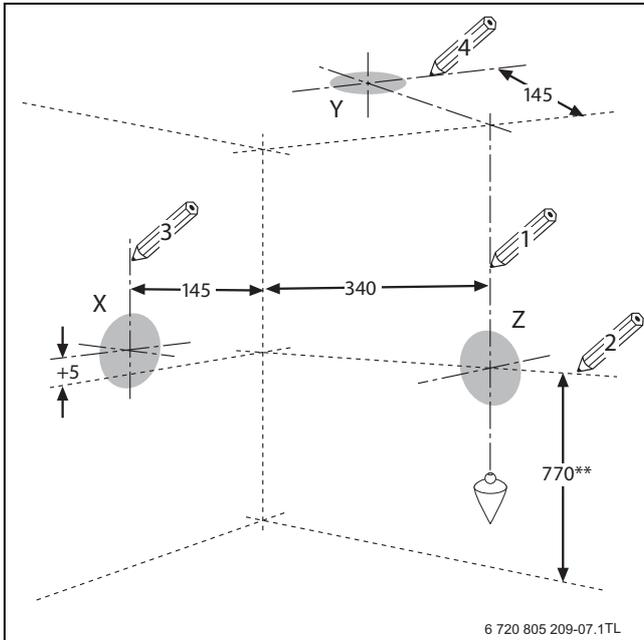

Fig. 28
- ▶ Follow figure 28 to mark the centre of the flue (1, & 2) for rear opening, (2 & 3) for side opening or (1 & 4) for top opening.